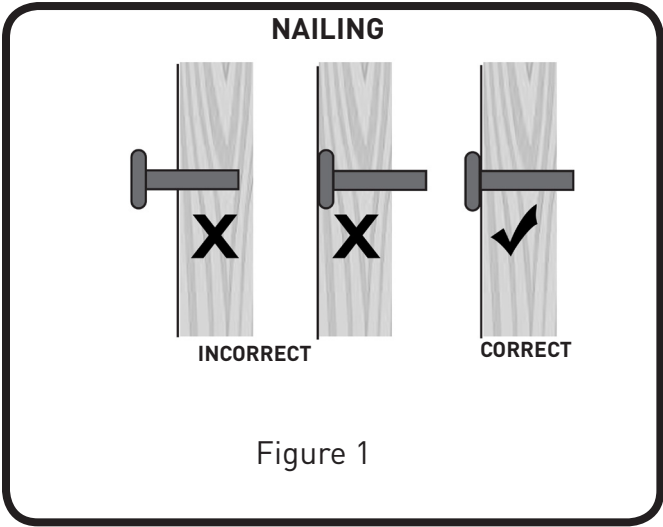

Figure 1
- Avoid countersinking nails or rupturing the surface of the panel. If countersinking occurs, seal nail prior to painting (see Fig. 1).